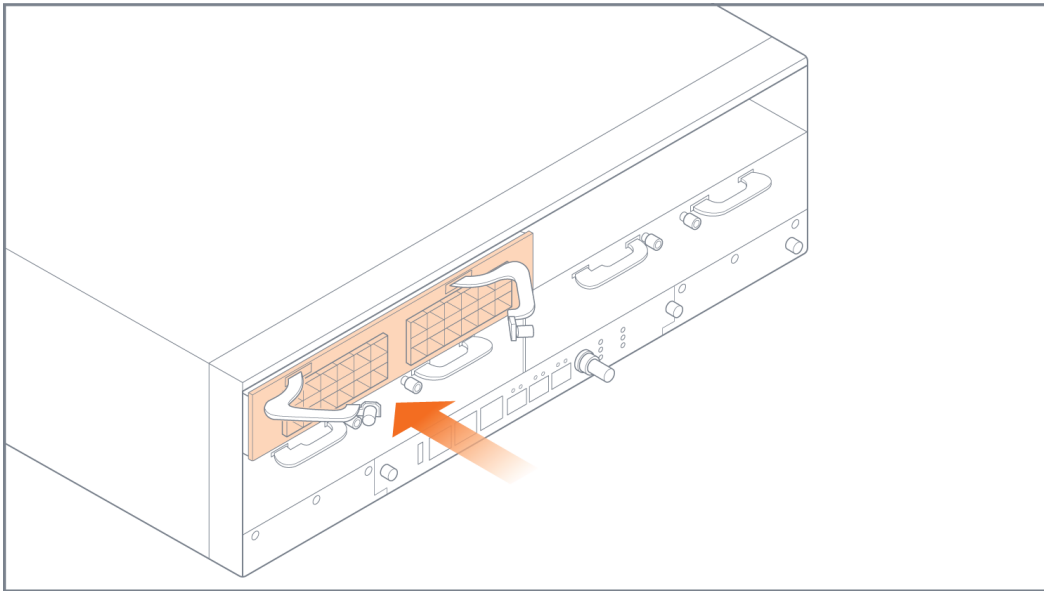

Figure 12: Module Insertion
2. Carefully slide the module into the bay until it mates with the mid-plane as shown in Figure 12: Module Insertion.